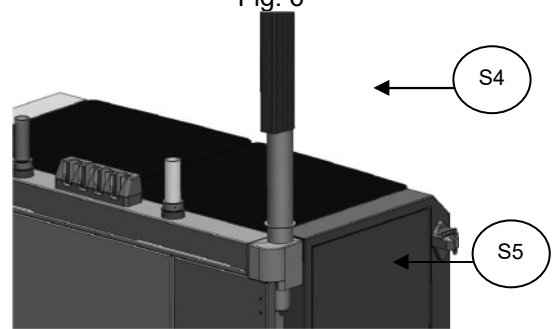

Fig. 8
11. Insert also the antifriction plastic washers **S5** and behind, the cable pass sheath **S4** with the notch and the two oval holes looking up (Fig.8)